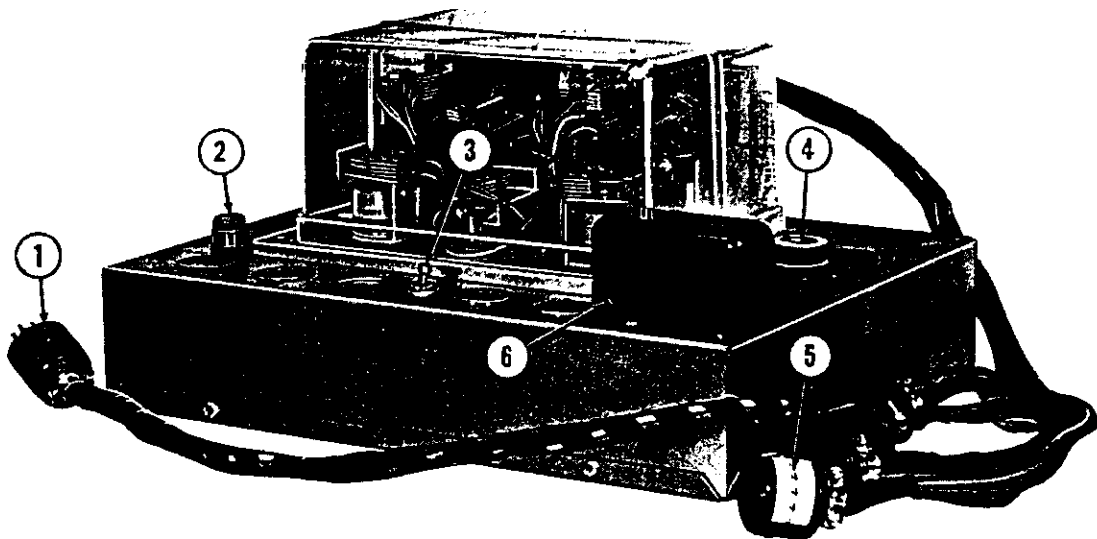
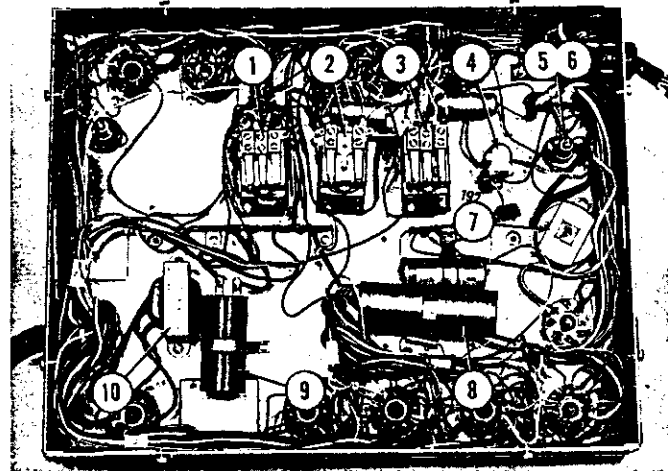

Fig. 32. JUNCTION BOX AND STEPPER UNIT 68125
Fig. 34. JUNCTION BOX AND STEPPER COMPONENTS
e. The junction box and stepper unit (Figs. 32, 33, and 34) is provided with plugs and sockets for inter-connection of the various components of the electric selector system, the record changer, and the power supply. The stepper unit for remote selection is mounted on the upper side of the junction box as shown in Figure 32. Details for stepper and wall box service will be published in another group. The inside of the junction box, Fig. 34, contains the wall box pulse relay, the reversing relay, timing relay No. 2, timing relay No. 3, the 5V panel light transformer, and several capacitors for stepper operation and filter circuits.